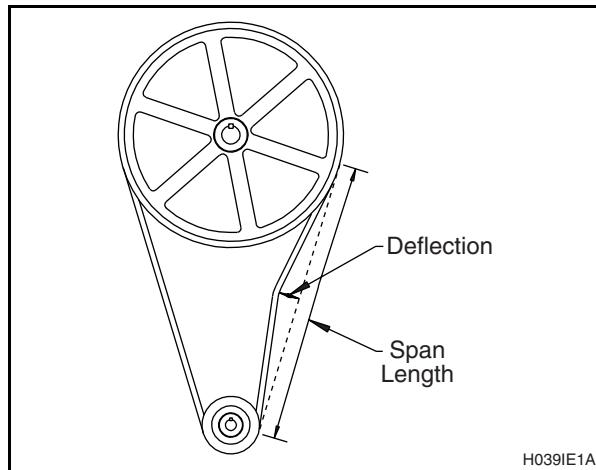

Figure 51
- d. For 3-speed and variable-speed models only, verify that V belts are properly tensioned by applying a set force to the belt and measuring the deflection to determine the belt tension. See the tables below for the acceptable belt tension ranges. Belt tension measurements should be taken as close to the center of the belt span as possible. See Figure 51.